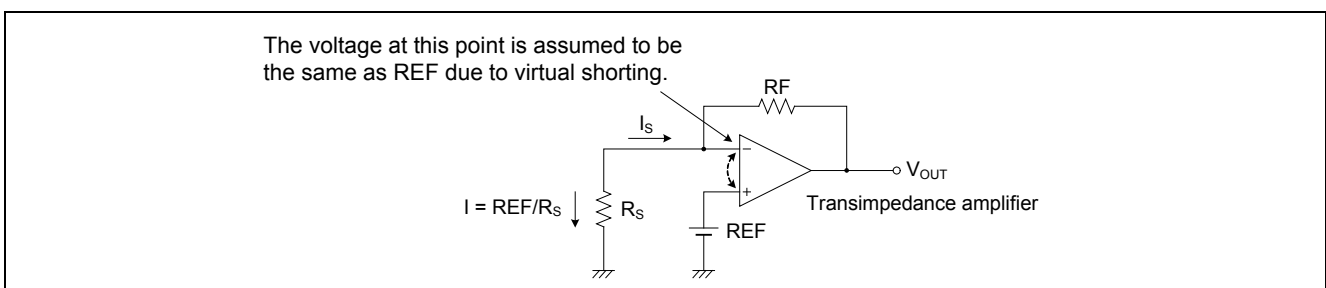

Figure 5.3 Connection Between Transimpedance Amplifier and Piezoresistive Sensor
In this application note, the configurable amplifier in the configuration of a transimpedance amplifier is connected to a piezoresistive sensor. **Figure 5.3** shows the connection between the transimpedance amplifier and the piezoresistive sensor.
In the transimpedance amplifier shown in **Figure 5.3**, the voltage at the non-inverting input pin and the inverting input pin is assumed to be the same due to virtual shorting. Therefore, the current I (A) is expressed by using the following formula, where R_s (Ω) is the resistance of the piezoresistive sensor: